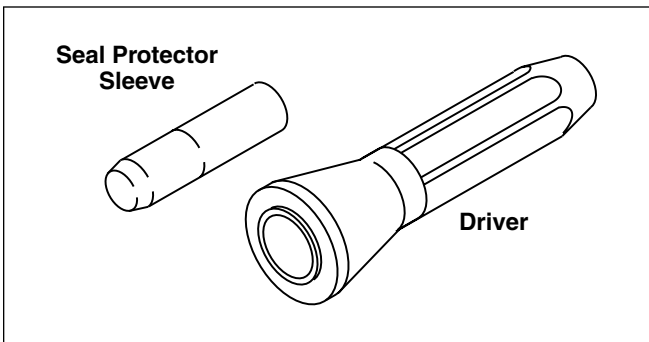

Figure 7-47. Main Drive Gear Small Oil Seal Installer (Part No. HD-41405)
- a. Obtain the MAIN DRIVE GEAR SMALL OIL SEAL INSTALLER (HD-41405). See Figure 7-47.